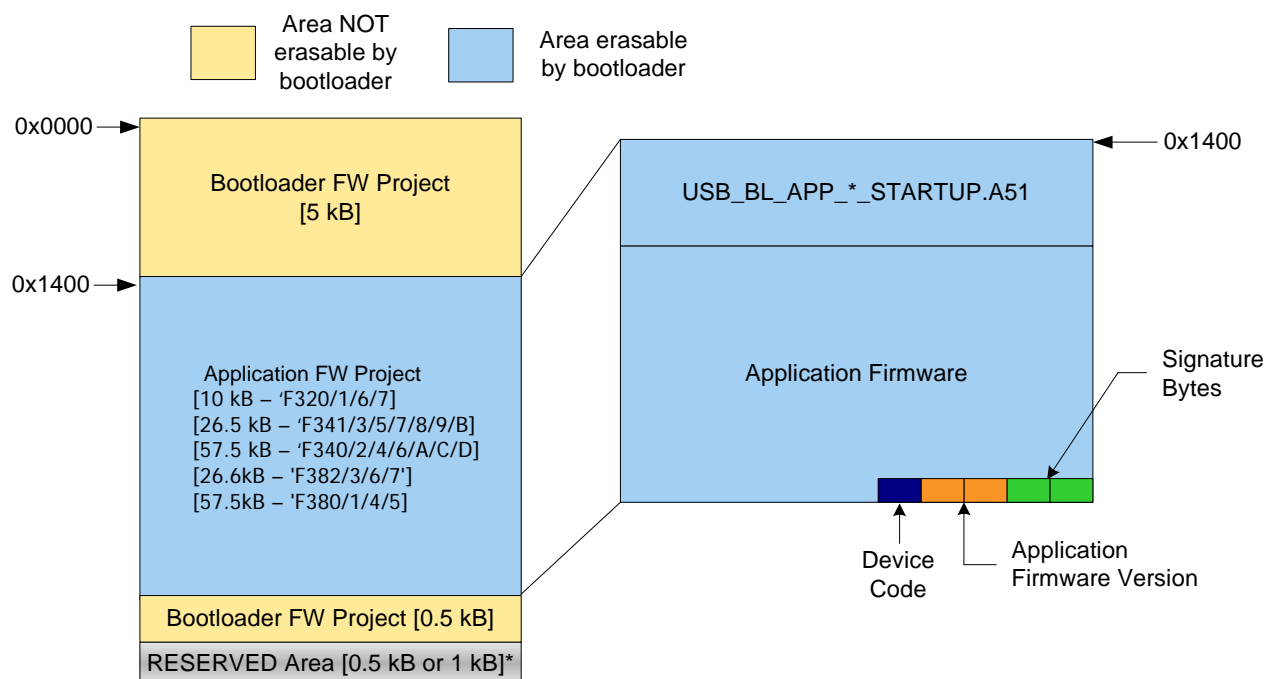

Figure 4. Application Firmware Code Memory Map
Application firmware designed to work with the USBXpress API as described in “AN169: USBXpress Programmer’s Guide” requires some modifications before it can work with the bootloader firmware. The following steps list the necessary changes to an existing USBXpress application. The same steps can also be adopted when designing a new USBXpress application. Figure 4 shows the application firmware code memory map, which can be used as a quick reference on the space available, and bytes reserved for special use.
- Updated Figure 4 on page 9.